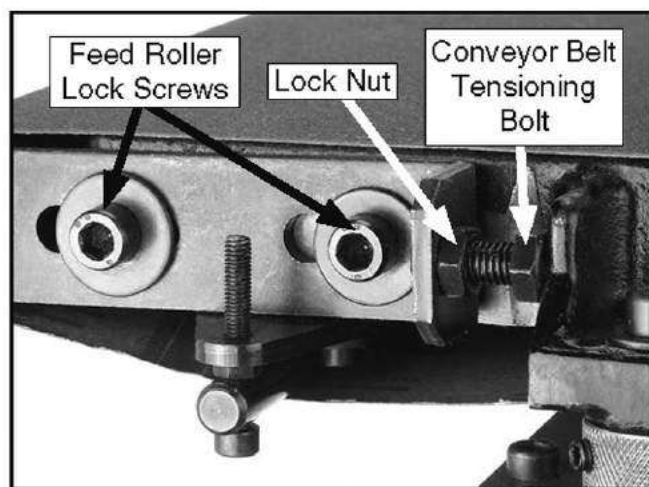

Figure 40. Conveyor belt tensioning controls.
1. Loosen feed roller lock screws, shown in **Figure 40**, on both sides of conveyor belt.